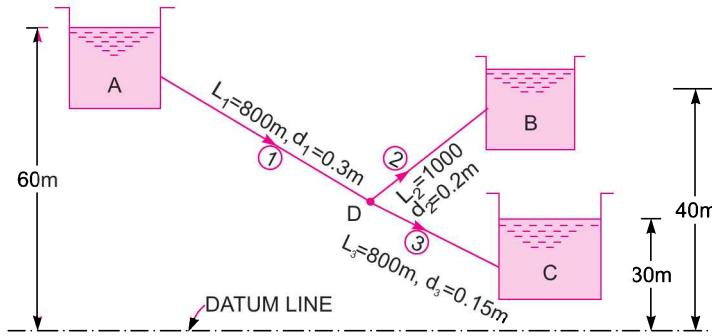

Fig. 11.28
**Problem 11.43** Three reservoirs, A, B and C are connected by a pipe system shown in Fig. 11.28. The lengths and diameters of pipes 1, 2 and 3 are 800 m, 1000 m, 800 mm, 200 mm and 150 mm respectively. Determine the piezometric head at junction D. Take  $f = .005$ .
The direction of flow in pipes are shown (given) in Fig. 11.28. Applying Bernoulli's equation to points A and D